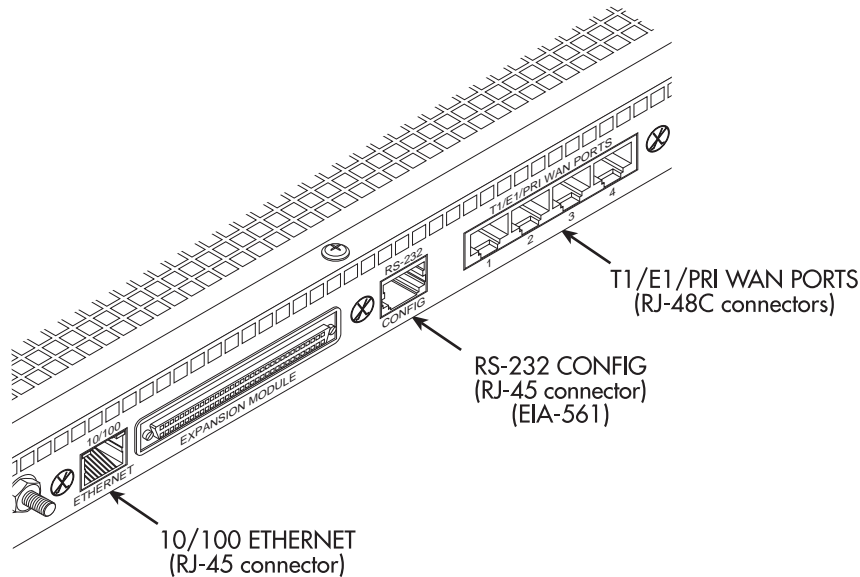
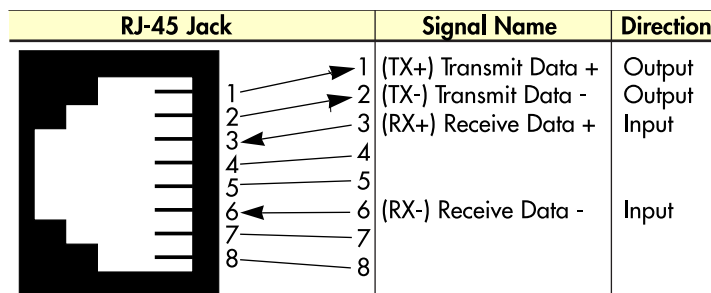
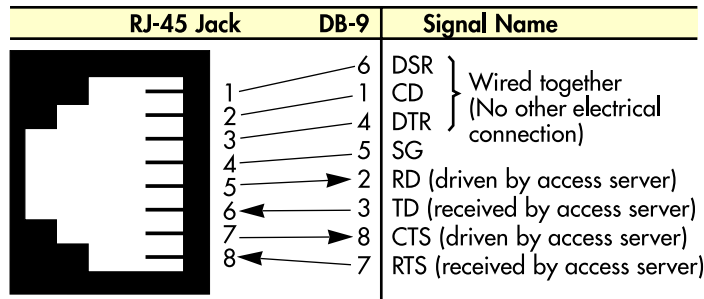

Figure 8. Model 2960/2996 network and configuration ports
Figure 9. Straight-through RJ-45-to-RJ-45 Ethernet cable diagram
Figure 11. DB-9-to-RJ-45 cable diagram
The RAS has a single 10/100 Ethernet interface for connection to your LAN (see figure 8). The Ethernet port will autosense the correct speed of the local LAN and automatically negotiate half- or full-duplex operation. This section describes connecting the RAS to the Ethernet LAN via an Ethernet hub, switch, or workstation.
The 10/100Base-T Ethernet port (see figure 8 on page 23) is designed to connect to an Ethernet switch or hub. Connect a straight-through CAT-5 cable (one wired as shown in figure 9) between the RAS and the hub/switch.
Install the supplied DB-9-to-RJ-45 cable between the RAS RS-232 port (see figure 8 on page 23) and an open serial port on your computer. If you need to assemble your own cable, refer to the pinout diagram in figure 11.
1. If you have not done so already, install the supplied DB-9-to-RJ-45 cable between the RAS RS-232 port (see figure 8 on page 23) and an open serial port on your computer.